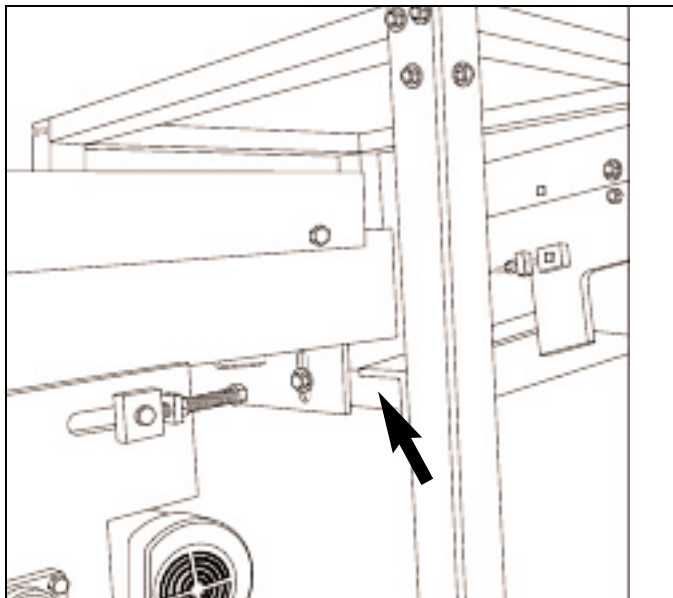

Figure 3.28 UNLOADING CONVEYOR BOLTED TO PALLET TRANSFER STAND.
3.9.3.4 Bolt pallet transfer stand to unloading conveyor as shown in figure 3.28.